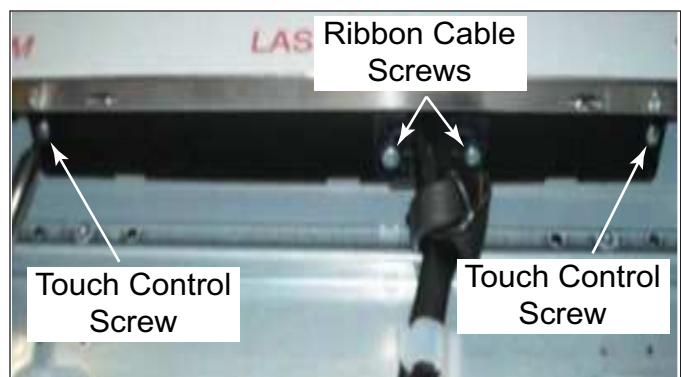

Figure 3-6. Black Hood Touch Control Board
1. Extract two Ribbon Cable screws and disconnect Ribbon Cable. (See Figure 3-6)